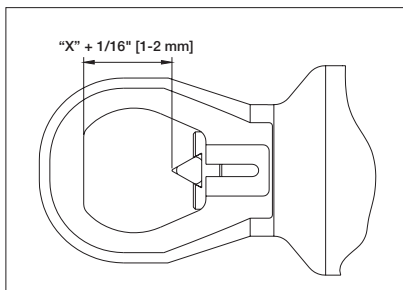

Figure 6
4. Rotate the cutting head until the distance from the head flat to the tip of the blade is the same as the nut to bolt distance previously measured in Step 1 PLUS an additional 1 to 2 mm (1/16"). See Figure 6.